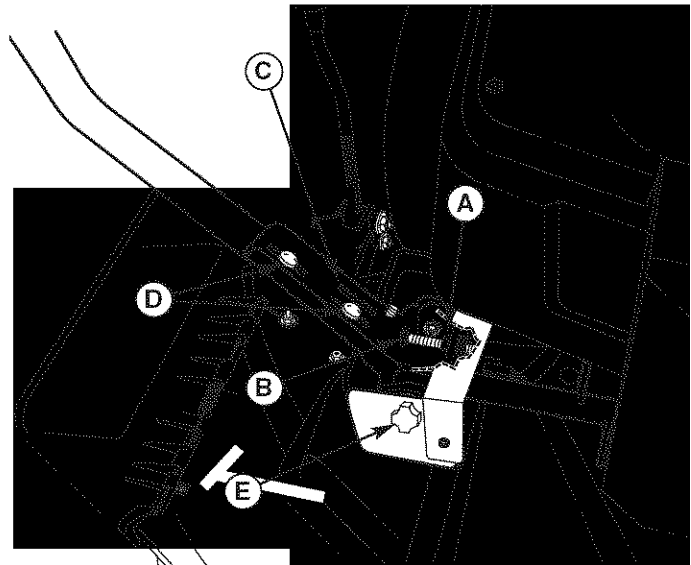

Figure 34. Control Lever Adjustment
To Adjust Control Lever Height: Pull the levers in across the operator's lap to their DRIVE positions. Loosen the mount bolts (D, Figure 34) and raise or lower the levers to the desired position. Tighten the mounting bolts.(D).
To Adjust Control Lever End Gap: The control lever end gap should be adjusted so that the levers do not contact each other when placed in DRIVE positions. Loosen the jam nut (A, Figure 34) and adjust the length of the carriage bolt (B) so that the levers do not contact each other. Repeat on the opposite side. Tighten the jam nut (A) to lock the carriage bolt in position.
To Adjust Operator Clearance: The space between the operator and the control levers can be increased by removing the lower mounting bolt (D, Figure 34), pivoting the lever forward, and reinstalling the capscrew through the control lever and forward slot (C). Repeat with the other ground speed lever.
If the rider veers to the right or left when the ground speed control levers are in the maximum forward position, the top speed of the right lever can be balanced by turning the adjustment knob (E, Figure 34). Loosen the jam nut and turn the knob COUNTERCLOCKWISE to increase speed or CLOCKWISE to decrease speed. Tighten the jam nut when complete.